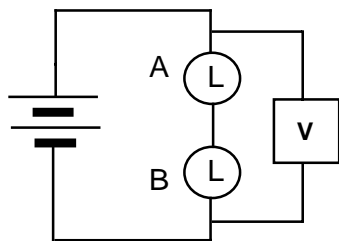
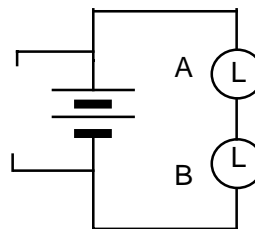
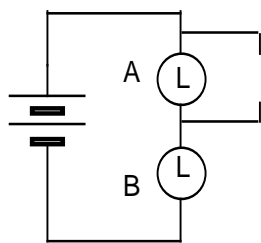
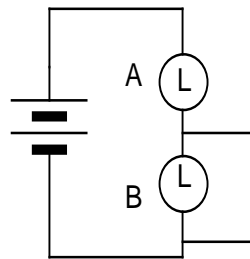

Figure 6.2a
Figure 6.2b
Figure 6.2c
Figure 6.2d
Each diagram below is shown with a pair of extra wires connected to two points on a circuit. Figure 6.2a shows a voltmeter connected to the free ends of one of the pairs of extra wires. Do not build the circuit yet; just study the diagrams.
2. Based on the color code, is there a pressure difference across the voltmeter in Figure 6.2a? Do you think it is equal or unequal to the pressure difference across the pair of bulbs? Why?
Suppose the voltmeter shown in Figure 6.2a is connected to the free ends of the extra wires in each of the other circuits. Try to envision the pressure difference in these wires as acting on the voltmeter, and the meter reading as telling you how the voltmeter is responding to this action.
3. How would you predict the pressure difference that acts on the voltmeter when it is connected across the battery as in Figure 6.2b – compared with the pressure difference that acts on it when it is connected across the pair of bulbs as in Figure 6.2a? Should these pressure differences be the same or different?
- a) across bulb A (as in Figure 6.2c) compared to the battery (Figure 6.2b)?
- b) across bulb B (as in Figure 6.2d) compared to the battery (Figure 6.2b)?
- c) across bulb A (Figure 6.2c) compared to across bulb B (Figure 6.2d)?